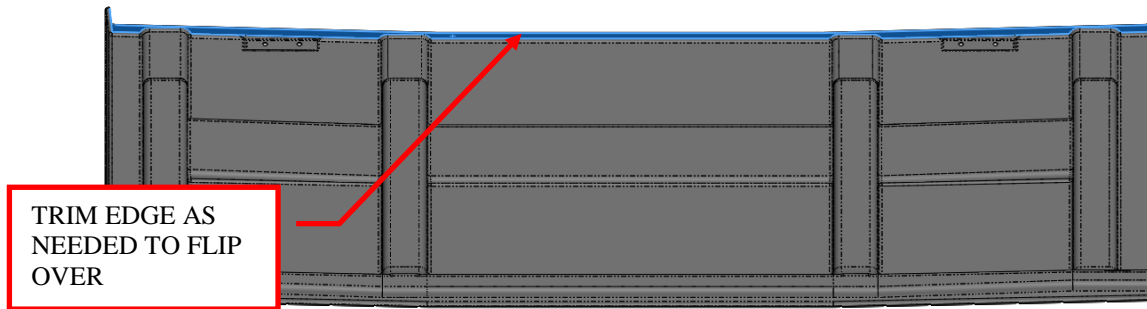

Figure 10: Trim roof edge.
11. The factory Kawasaki roof trim line varies significantly from one unit to the next. They are typically a very wavy trim edge and often catch on the factory installation when flipping the roof over. You may have to trim the edge highlighted in Figure 10 for the roof to flip-over as intended with the Audio Shade roof. Although the Audio Shade roof duplicates the contours of the factory roof in this area, it is too rigid for the rear roof to flip-over when it is not properly trimmed. Use a small angle grinder to sand the edge to the desired height. Test function by flipping the roof back and forth until it clears.